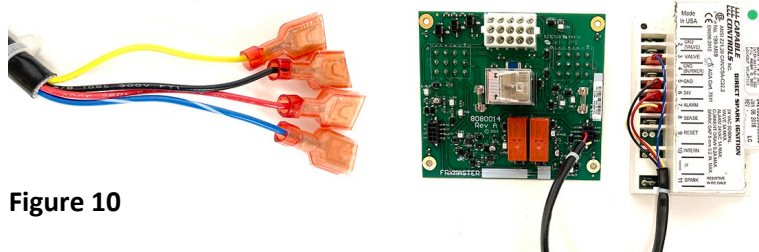

Figure 10
3. Terminate the stripped wires with the ¼" push on connectors (see Figure 10).
3. Terminate the stripped wires with the ¼" push on connectors (see Figure 10 above).